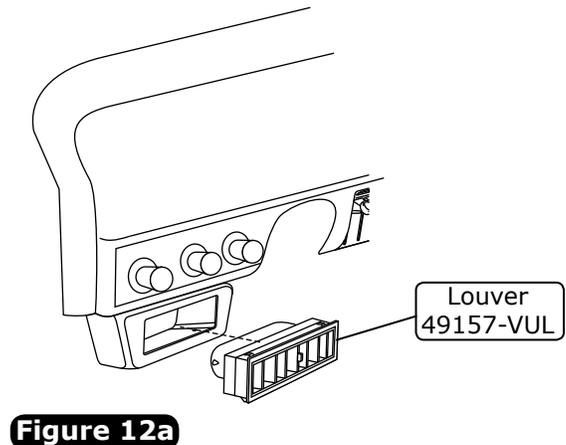

Figure 12a
3. Install the louver into the bezel as shown in Figure 12a, below.